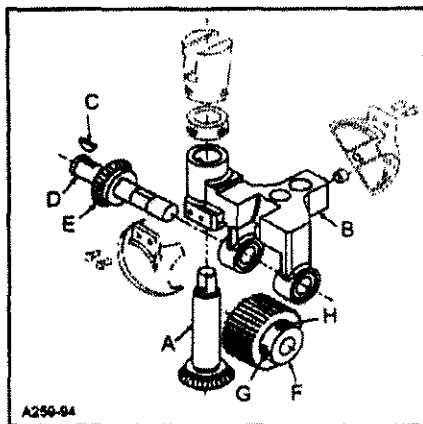

FIG. 16
Assemble driven gear(A, Fig.16) through feed roller frame (B). Place woodruff key(C) into slot of feed roller shaft (D). Slide drive gear (E) on to shaft (D), make sure key(C) goes into slot in gear(E). While holding feed roller frame (B) with steel roller(F) between the two frame lobes, slide feed roller shaft(D) and assembled components through frame. Make sure that shoulder of roller (F) is to the right. Align screw(G) (first in operating direction on roller) on the flat of shaft (E). At the same time thrust shoulder of shaft(D) against face of gear(E), make sure left edge of roller is against face of gear(E), make sure left edge of roller is against right (inside) face of left lobe. Secure screw(G) on flat of shaft (D) and tighten screw(H).